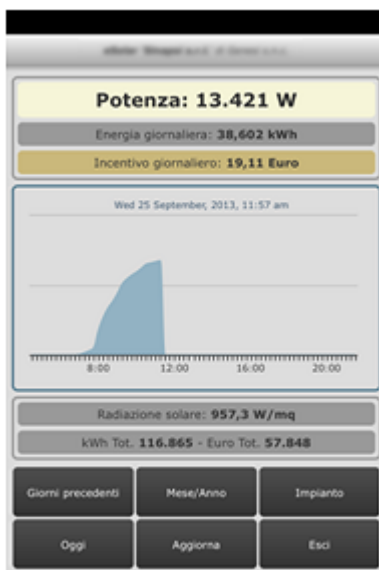

Figure191 – APP
- *Days*: show up three days earlier than the current date (Figure191)